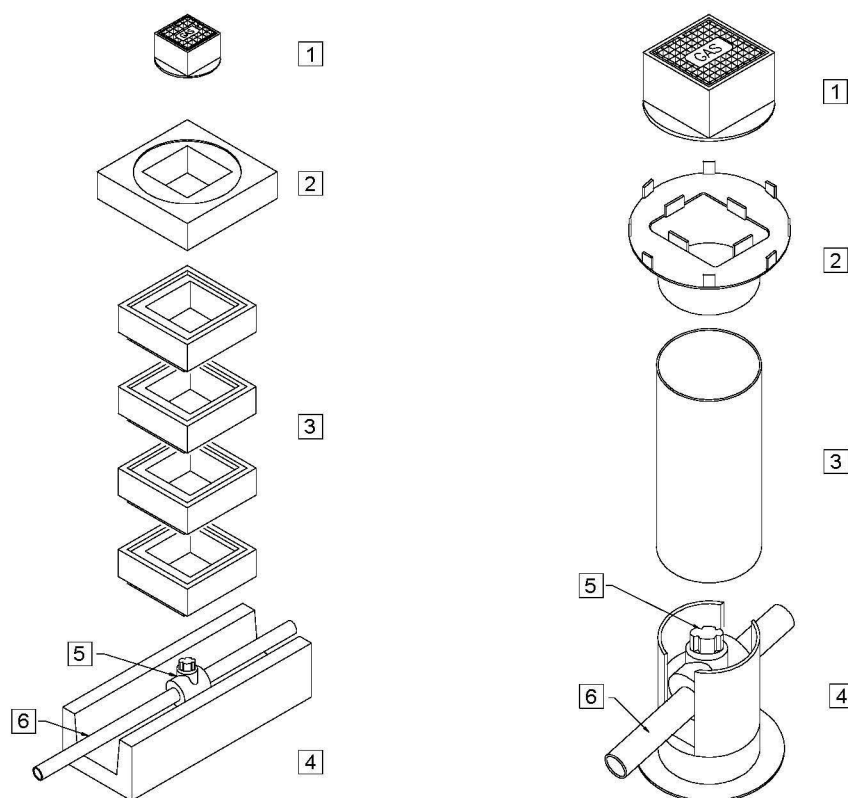

Figure C5 – PE Service Isolation Valve Chambers
4. Service isolation valve covers should have a concrete surround or purpose made plastic chamber installed over the centre line of the valve (Figure C5 & Table C2).